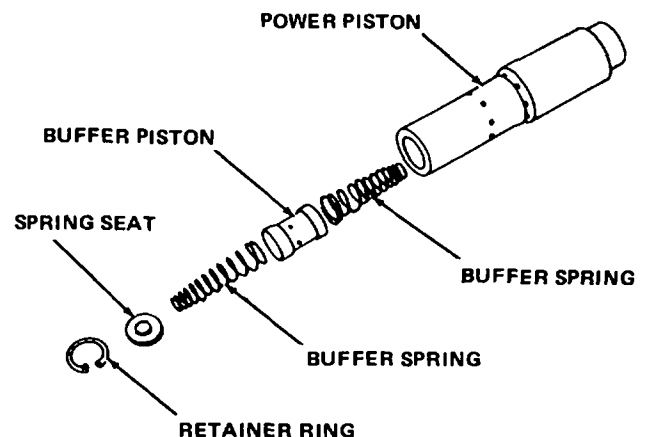
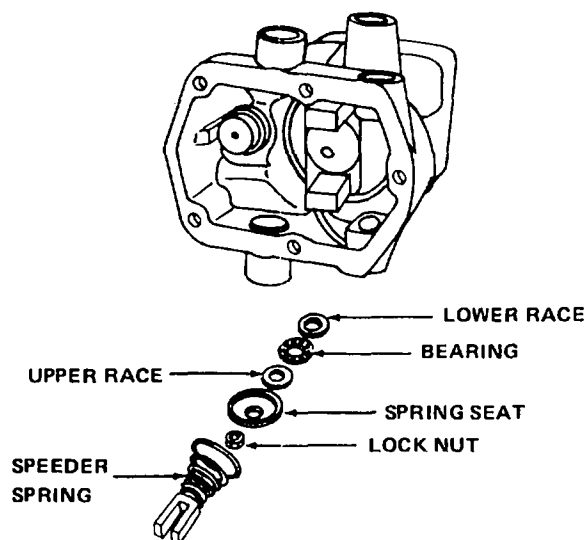

Figure 11-18. Governor Buffer System Assembly
Figure 11-20. Governor Thrust Bearing and Speeder Spring Parts
(14) Assemble buffer system parts (50 through 54) into power piston (49) if required: refer to figure 11-18 and note position of holes in buffer piston: they must be in this position for proper operation.
(16) Install power piston stop screw (45, figure 11-5) and bushing (46) into case and position as shown in figure 11-18. Secure parts with a new copper washer (48, figure 11-5) and elastic stop nut (47).
(17) Place ballhead assembly (63 through 70) on pilot valve bushing (59) and secure by placing retaining ring (62) into groove on outside of pilot valve bushing.
(18) Assemble thrust bearing (61), spring seat (56), nut (57), and speeder spring assembly (55). Refer to figure 11-20.